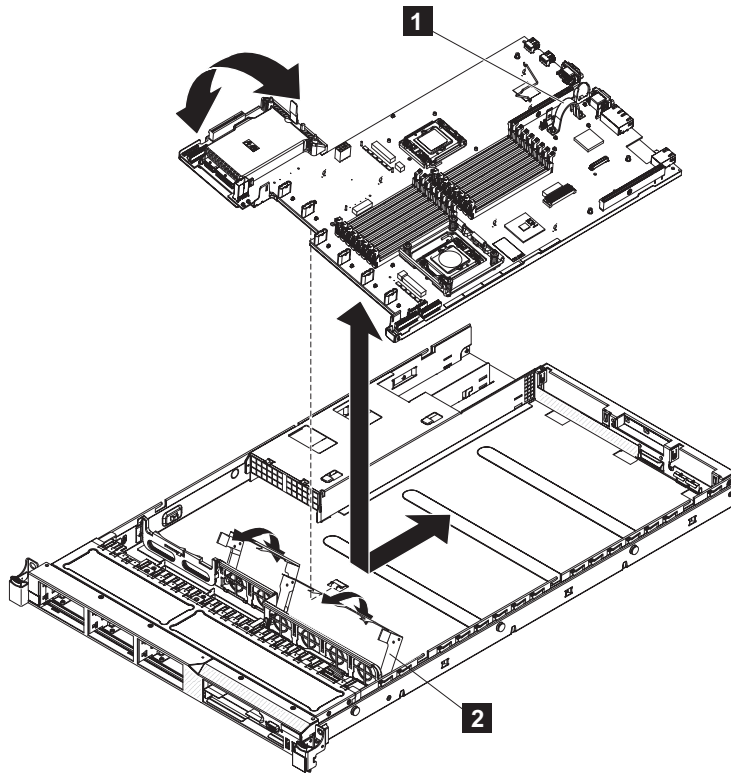

Figure 289. Removing and replacing the SAN Volume Controller 2145-CG8 or 2145-CF8 system board
2. Place the side of the system board assembly that is farther from the power supply units beneath the catches. Lower the opposite side of the system board until it is flat in the chassis. Align the rear connectors with the holes in the rear of the server and slide the system board towards the rear of the node, as shown in Figure 289 on page 305.